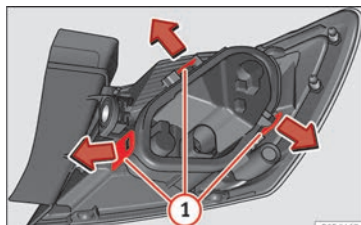

Fig. 112 Retaining tabs on reverse side of tail light.
- Remove the bulb holder » **Fig. 112** unlocking the retaining tabs (1).